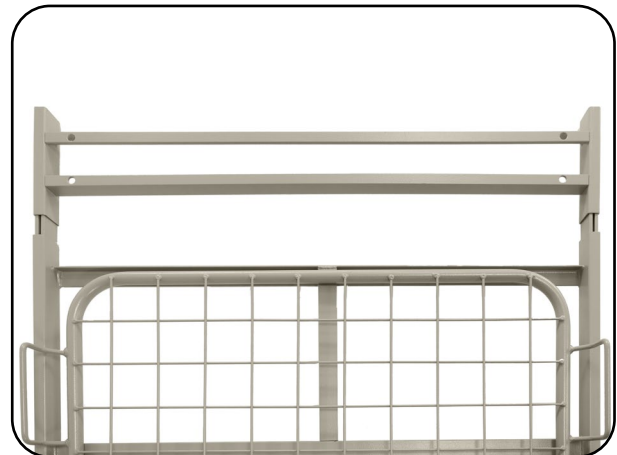

Fig. 6.6.04 – Bed extension positioned in foot part bed surface frame
8. Push the bed extension into the bed surface frame of the foot support (Fig. 6.6.04) until the holes line up.